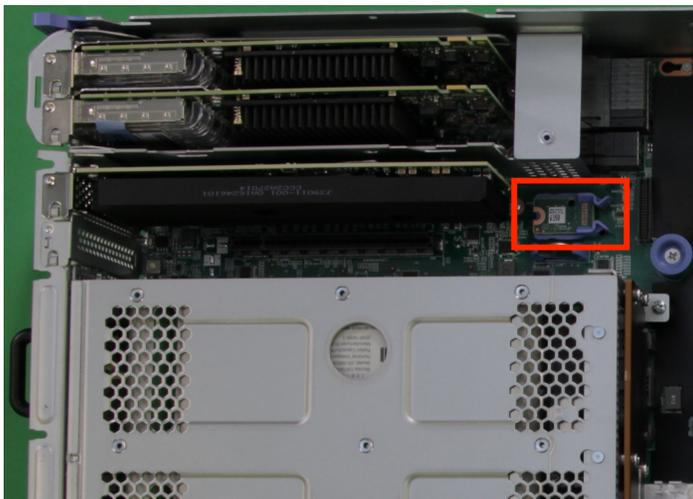

Figure 99. Locating the TPM
9. Locate the TPM, which is between the boot drive and CMOS battery, as shown in Figure 99 on page 158.